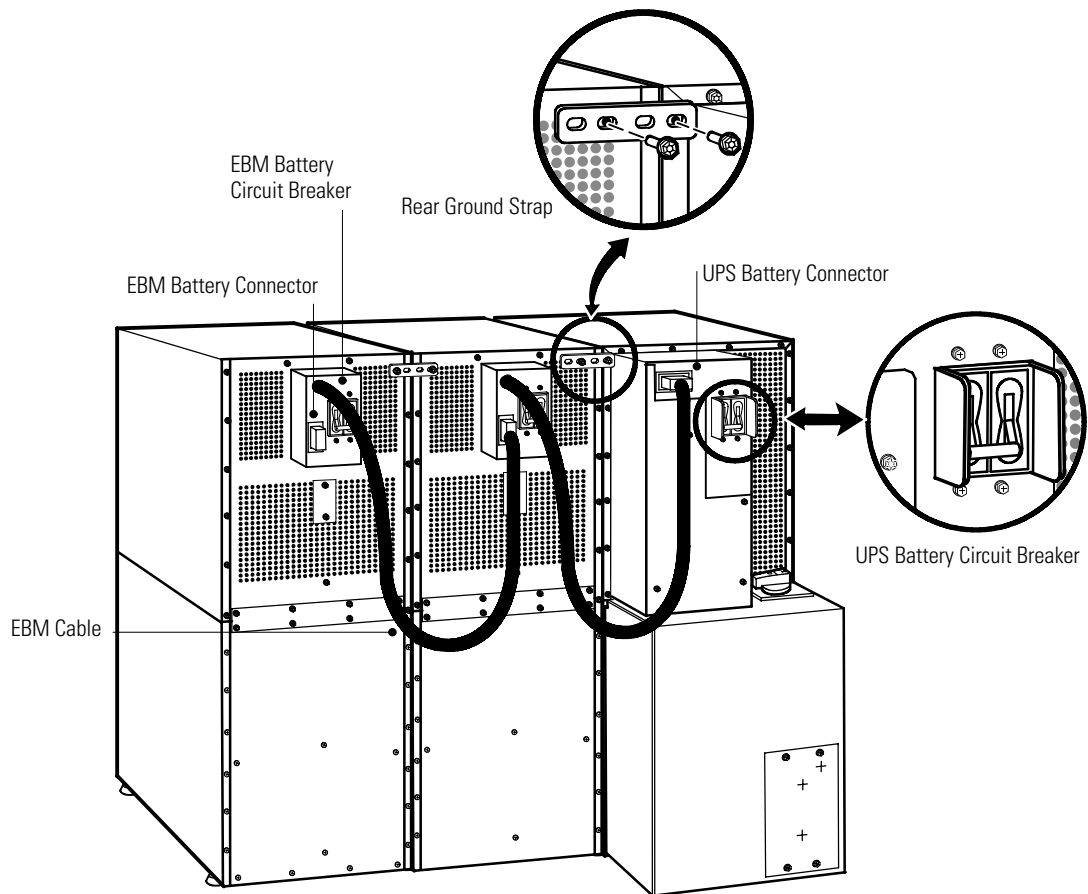

Figure 31. Typical EBM Installation (2-High Cabinets Shown)
2. Verify that all battery circuit breakers are in the OFF position (see Figure 31).
4. Install one ground strap between the UPS and the EBM rear panels as shown in Figure 31.
5. If additional EBMs are installed, attach another ground strap between the first and second EBM as shown in Figure 31. Repeat for each additional EBM.